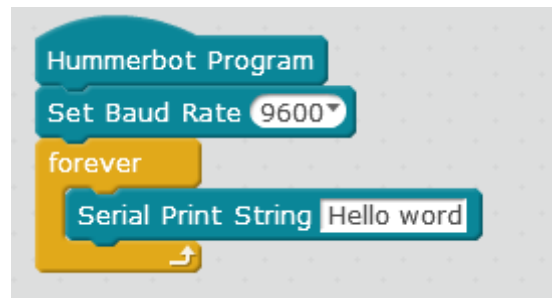

Figure 2-8
3) Drag the “Serial Print String” block into the repeating building block in Arduino’s building block and enter “Hello word” as shown in Figure 2-8.